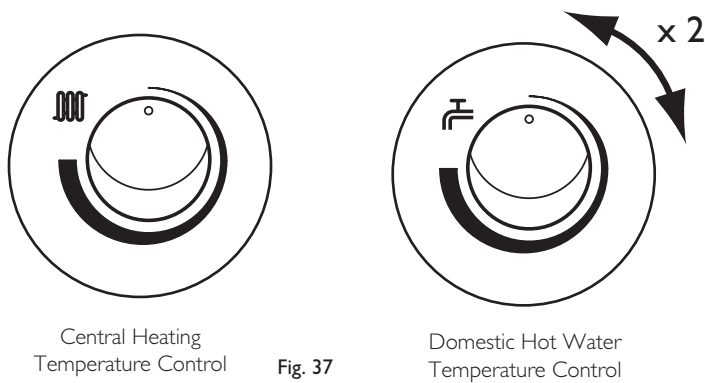

Fig. 37
3. Turn both temperature control knobs fully anticlockwise, then quickly turn the DHW temperature knob $\frac{1}{4}$ clockwise twice and back fully anticlockwise (Fig. 37).